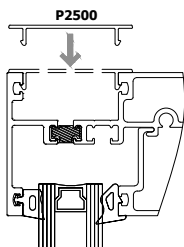

FIG. 2
- Cut P2500 to size and snap into place all four sides. **See FIG. 2**